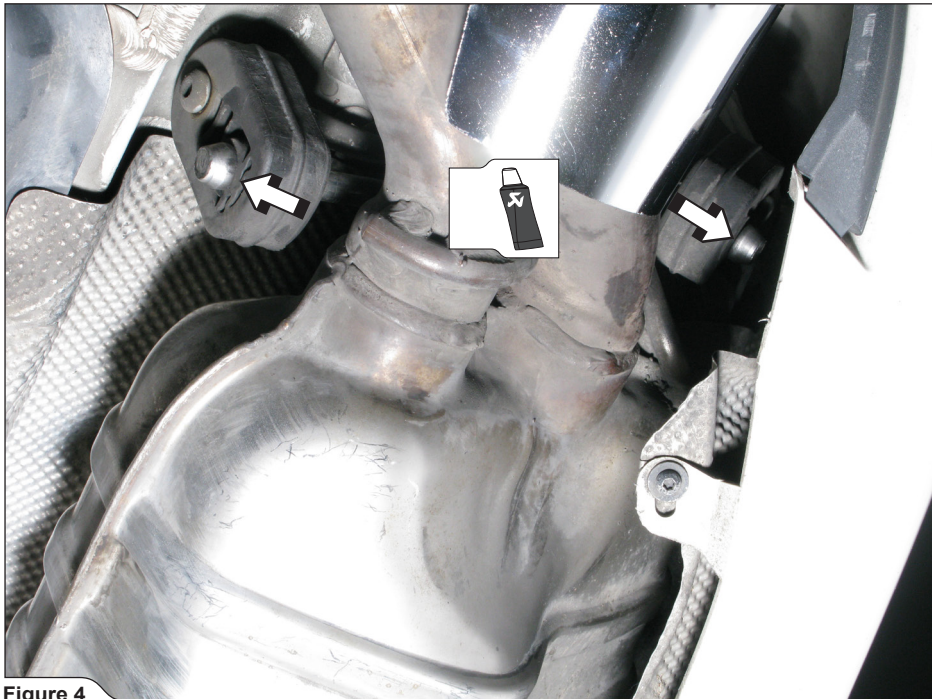

Figure 4
3. **For Slip-On only:** carefully pull the rubber brackets off the muffler on both sides of the vehicle and remove both mufflers (**Figure 4**).